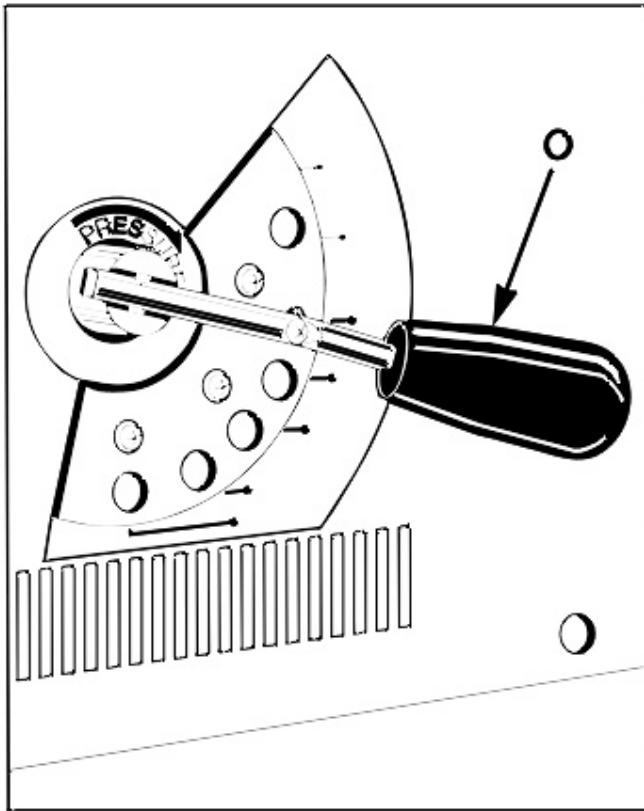

Fig. 6
O. ROLLER PRESSURE HANDLE: Adjusts the amount of roller pressure needed for various laminating and mounting applications, (Figure 6).
The 4200 uses Poly-In film on 1" cores. Poly-In means the adhesive side of the film is on the inside of the web (Figure 6). The shiny side of clear film must contact the heat rollers. The dull side of the film contains the adhesive. Use extreme caution when loading de-lustered (matte) film as both sides appear dull.